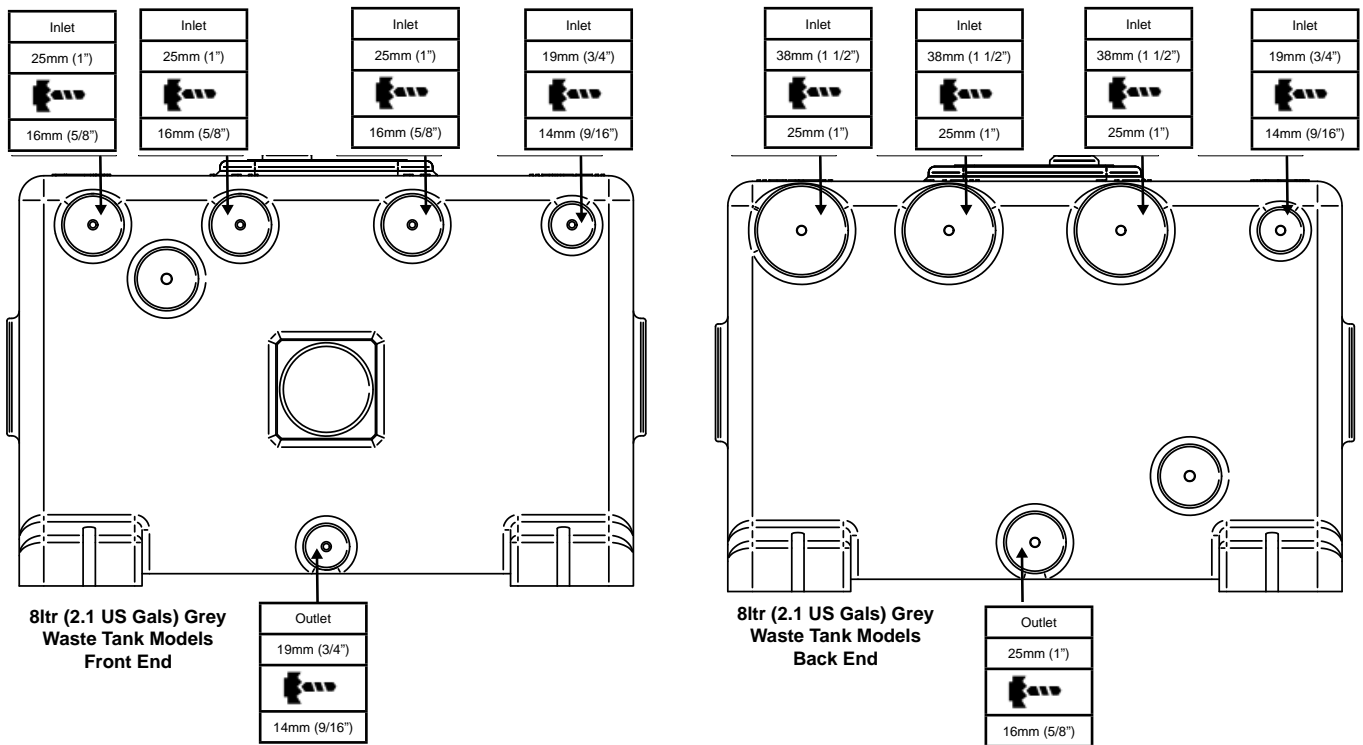
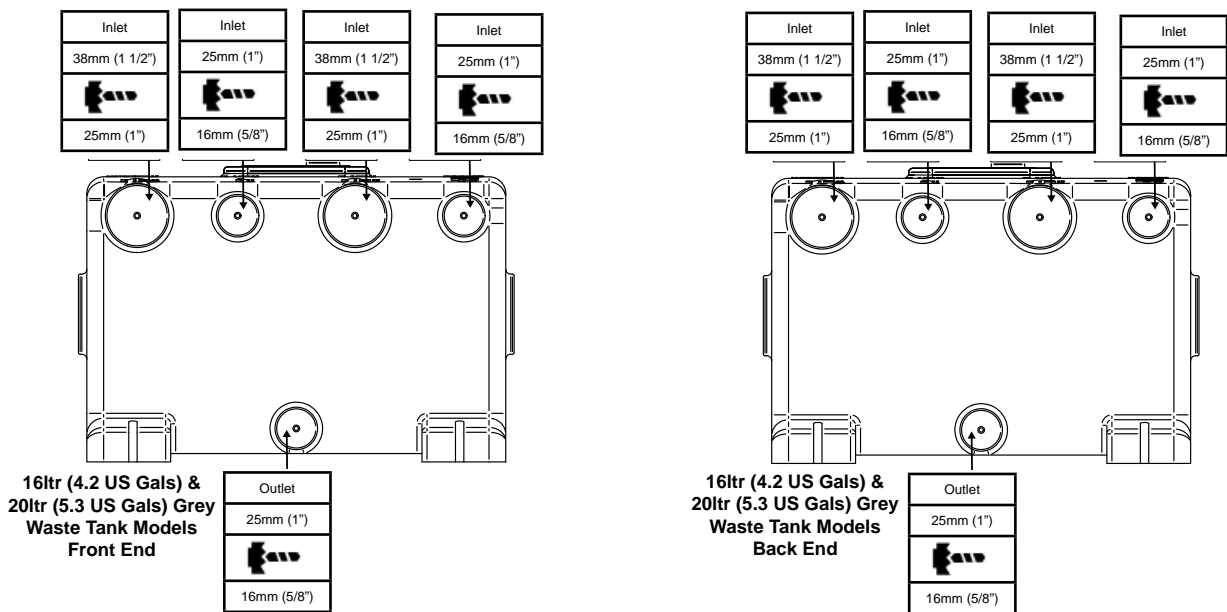

Figure 3 Port Sizes & Recommended Drill Diameters For 8ltr (2.1 US Gals) Grey Waste Tank Models
Figure 4 Port Sizes & Recommended Drill Diameters For 16ltr (4.2 US gals) And 20ltr (5.3 US gals) Tank Models
Step 1: Drill only the ports which are to be used in the installation. Port sizes and recommended drill diameters are shown in Figure 3 for 8ltr (2.1 US Gals) tank models, and Figure 4 for 16ltr (4.2 US Gals) and 20ltr (5.3 US Gals) tank models. Ensure all swarf is removed from inside the tank after drilling.